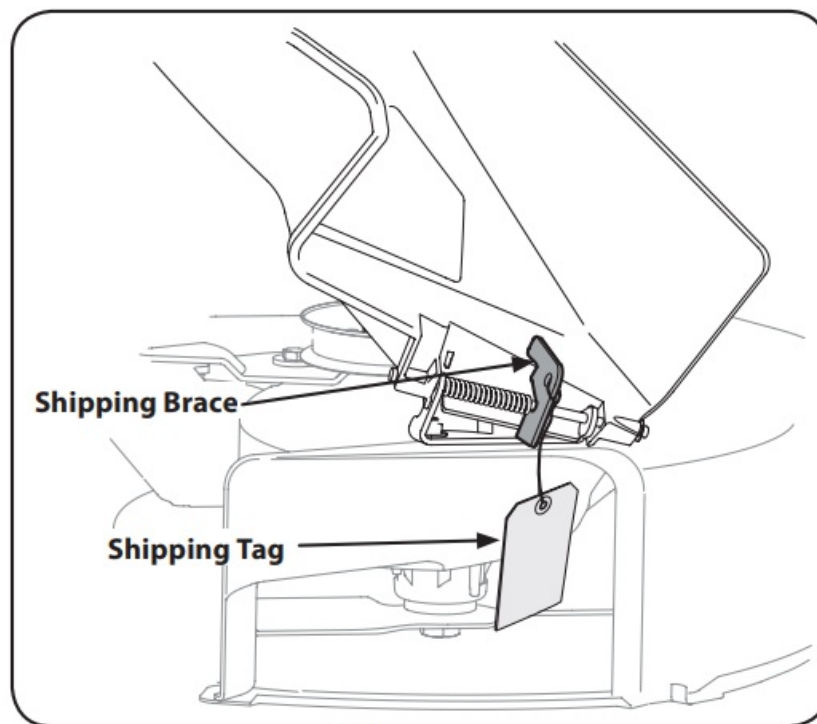

Figure 3-4
- Locate the shipping brace and tag, if present, between the chute deflector and the cutting deck. Holding the chute deflector fully upward, remove the shipping brace by grasping it and rotating it. Lower the chute deflector. Refer to Figure 3-4.